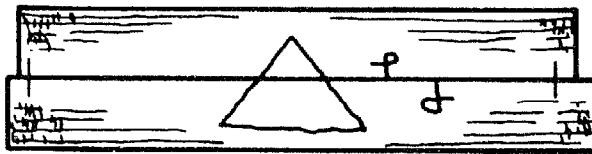

Fig. 2
- Now put the inside edges of the horizontal members together, mark the length of the members and put the triangular mark as shown in Fig. 2. The triangle always should point up.